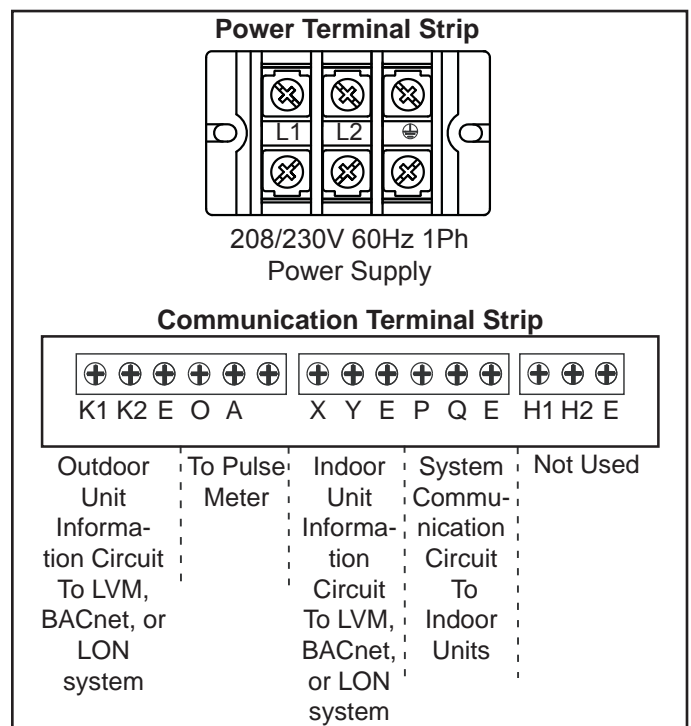

Figure 22. Wiring Terminals
2. Locate the terminal strip in the outdoor unit control box. Connect the power wiring (sized per NEC/CEC and local codes) and communications cable (3-conductor, shielded cable) per Figure 22. Refer to unit nameplate for rated voltage.